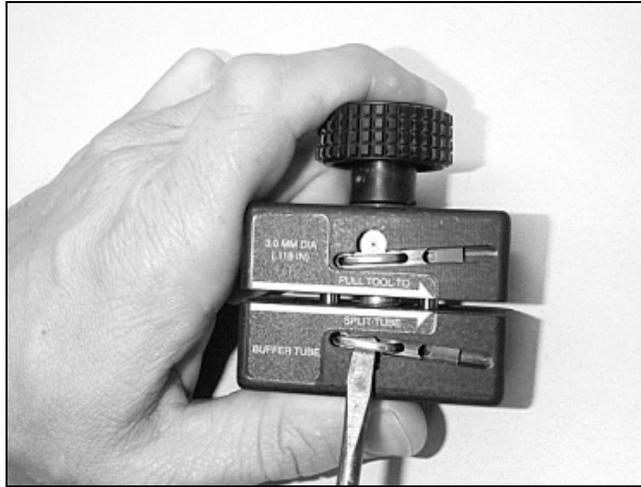

Figure 5 – Remove the locking clip.
6.2 Remove the locking clip by placing a small screw driver behind the center of the clip and pry it out (Figure 5).